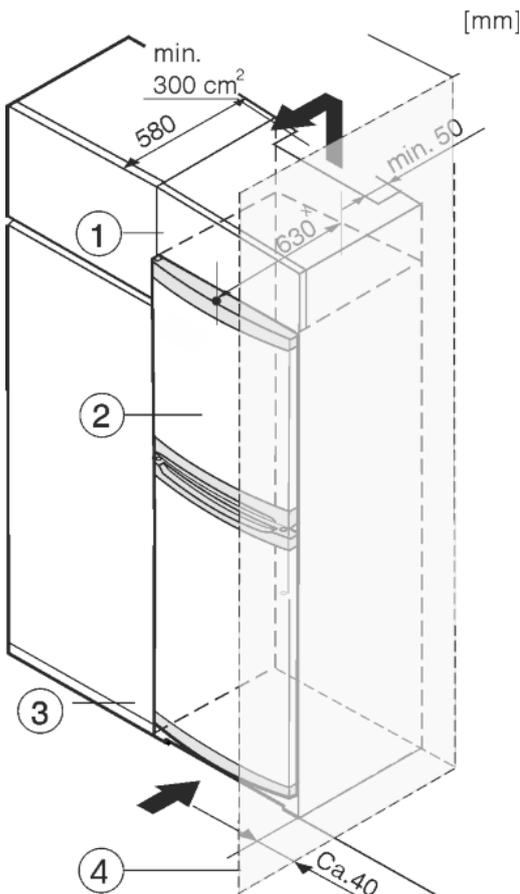

Fig. 8
The appliance can be built into kitchen units. A top cupboard *Fig. 8 (2)* can be added above the appliance in order to bring the appliance *Fig. 8 (1)* up to the height of the fitted kitchen units.
When installing with kitchen units (max. depth 580 mm), the appliance can be positioned directly next to the kitchen cabinet *Fig. 8 (3)*. The appliance will project by 34 mm × at the sides and 50 mm × in the centre of the appliance in relation to the kitchen cabinet front.
If the appliance is installed with the hinges next to a wall *Fig. 8 (4)*, the distance between appliance and wall has to be at least 40 mm. This corresponds to the projection of the handle when the door is open.